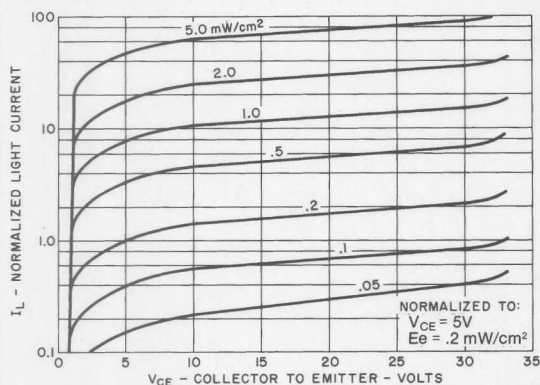
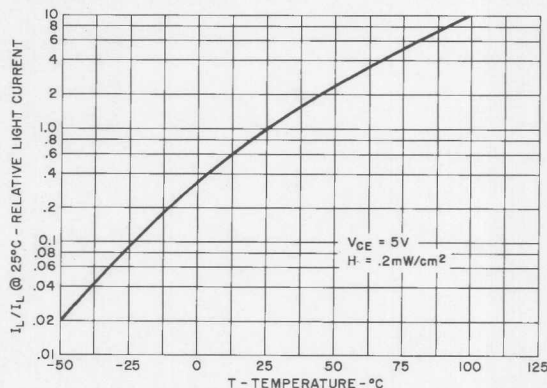

Fig. 1. Light Current vs. Collector to Emitter Voltage
Fig. 2. Relative Light Current vs. Ambient Temperature
8. Figure 1 and figure 2 use light source of tungsten lamp at 2870°K color temperature. A GaAs source of 0.05 mW/cm² is approximately equivalent to a tungsten source, at 2870°K, of 0.2 mW/cm².